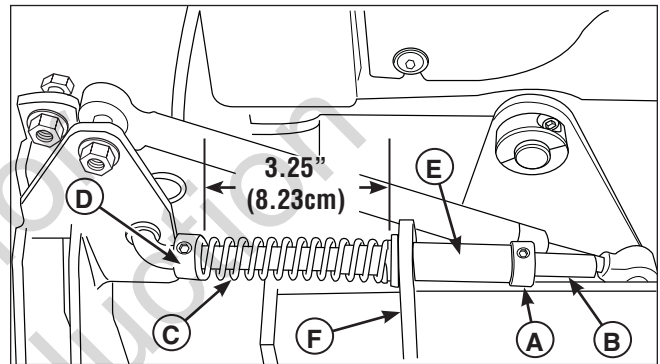

Figure 34. Neutral Return Spring Adjustment
2. Measure the length of the neutral return spring (**C**, **Figure 34**) it should be set at 3.25” (8,23cm). If the spring does not measure 3.25” (8,23cm) loosen the front set collar (**D**) and the rear set collar (**A**), then move the front set collar forward or back on the neutral return rod (**B**) until the spring length equals 3.25” (8,23cm). Retighten the front set collar.